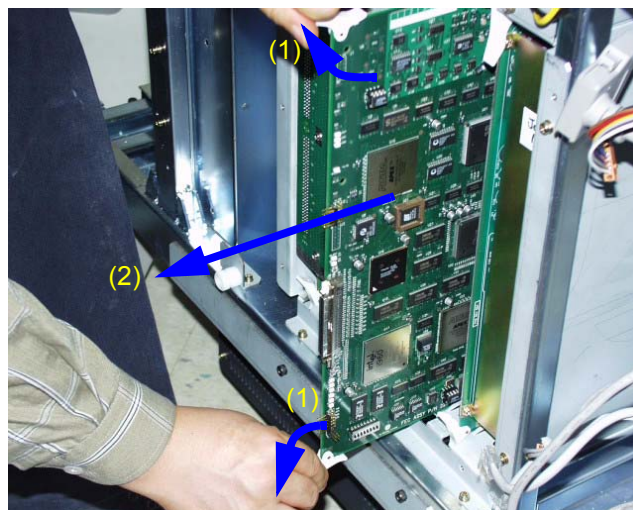

Figure 8-120 Pulling Out the Board.
- 7.) Move the upper and lower stopper in the direction indicated by the arrow (1). Refer to Figure 8-120 on page 8-69 .